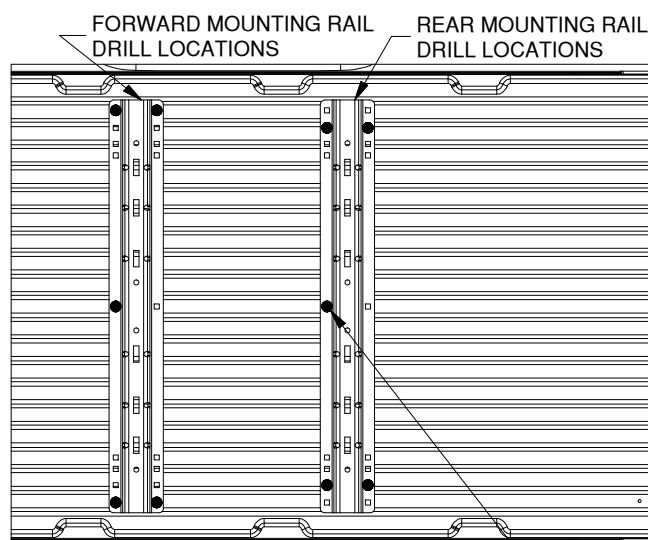

Figure A2: Detail view over bed, showing drill locations for the forward and rear bed rails. DRILL LOCATIONS
- Mark hole locations:** While carefully ensuring the mounting rail does not move, use a center punch tool to mark the 5 drill locations on the rear rail. See figure A2 for hole marking locations for this installation (forward rails will install on a later step). Once all 5 rear rail locations are clearly marked, move the bed rail out of the way and drill each location with an 1/8" drill.
- 3. Drill forward mounting holes.** Using the same methods as used for the rear mounting rail, mark, drill, check, and enlarge the holes for the forward mounting rail. Refer to "DRILL REAR MOUNTING HOLES" section, steps 2 through 4, on a previous page. Notice that the hole locations are slightly different than the rear rail, see figure A2 (on the second page).